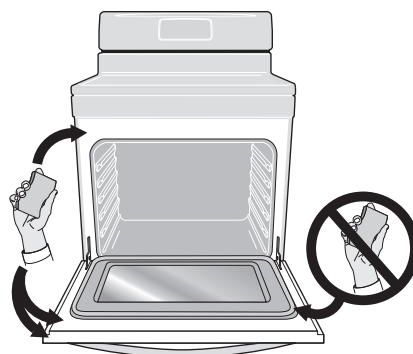

Figure 12: Do not clean the oven door gasket
12. Wipe oven cavity and bottom. Do not clean oven door gasket (See Figure 12).